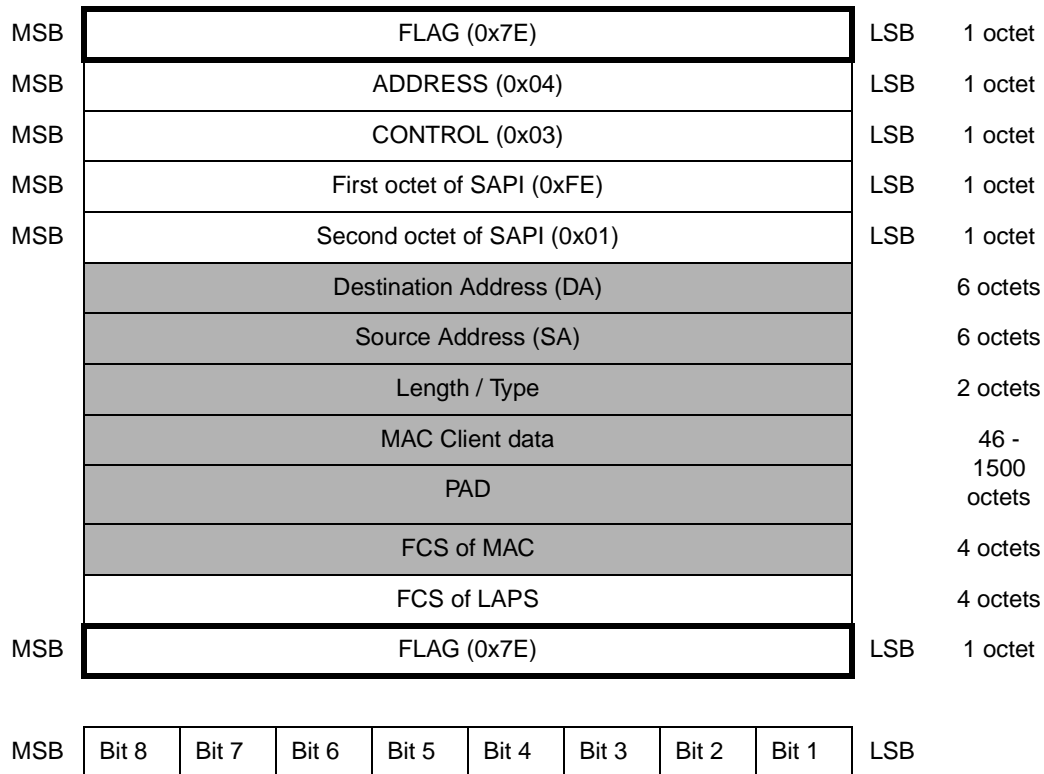

Figure 53. Format of LAPS Frame with an Ethernet MAC Frame Payload
Figure 53 shows the format of a LAPS frame with a Ethernet MAC frame payload (denoted by the shaded area).
- 32-bit FCS generation over all bits of the ADDRESS, CONTROL, SAPI, Payload Information field (shaded area as shown in Figure 53) not including any Flags and Abort sequences, is configurable using the cTFCSx register. Furthermore, the FCS generator can be initialized to a default state using the cTFCSINITIALx register.